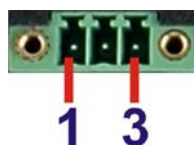

Figure 3-20: 3-pin Power Terminal Block Pinout Location
- CN Pinouts:** See **Table 3-7** and **Figure 3-20**